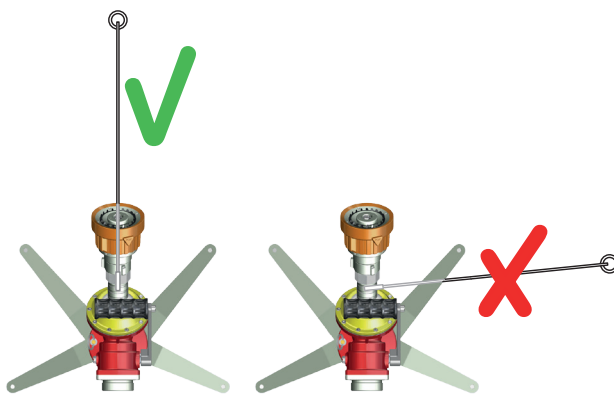

Fig. 5
- **2** - The anchoring point must be between the monitor and the target (Fig. 5).
- **2** - A straight hose length of 8 meters must be set behind the monitor (Fig. 5).